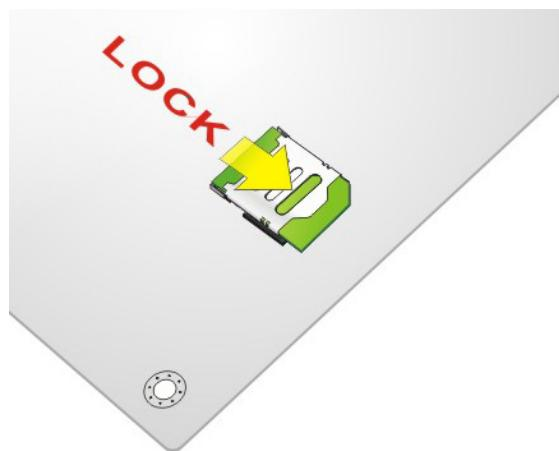

Figure 4-7: Lock SIM Card Slot Cover
Step 4: Close the slot cover and lock it by sliding it in the direction as shown by the arrow in **Figure 4-7**.